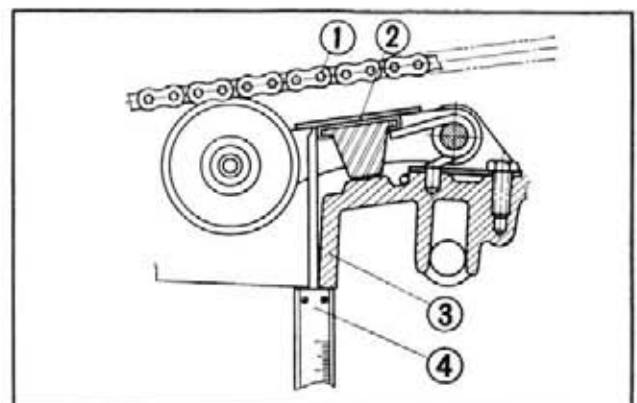

Fig. 3-90 ① Primary chain ③ Lower crankcase
② Primary sprocket ④ Vernier caliper
- c. Measure the distance between the primary chain tensioner bracket and the oil pan mounting flange (Fig. 3-90) with the vernier caliper.